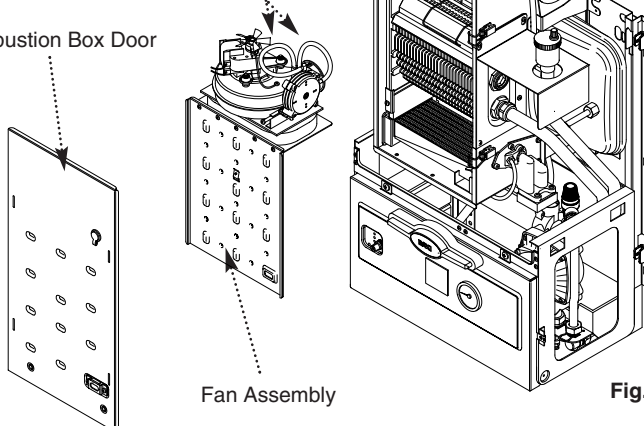

Fig. 95
7. Release the four latches retaining the combustion box door and remove the door (Fig. 95) .
8. Release the 5-pin electrical plug connecting the pressure switch and fan (Fig. 94). Withdraw the fan assembly by pulling forwards from the top edge (Fig. 95).
7. Replace all components in reverse order **ensuring that the flexible tubes from the fan unit to the pressure switch are routed correctly and that they are not kinked or flattened** (Fig. 95).